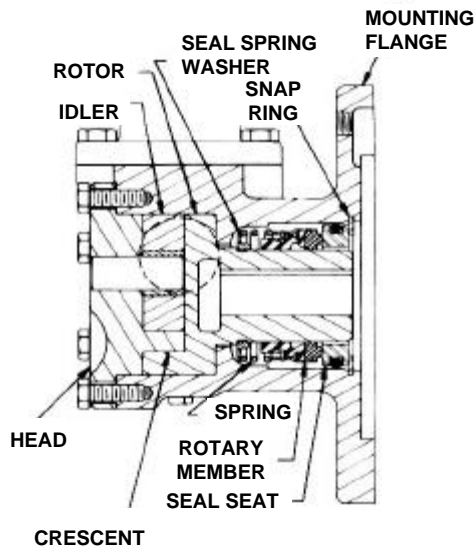

FIGURE 9
To Reassemble Model G475 or GG475 Mechanical Seal Pumps: (see figure 9)
Note correct position of idler and crescent (see figure 9 and Disassembly Step 2). Tighten the head capscrews and the check the end clearance.
- INSTALL THE MECHANICAL SEAL. Slide the seal spring washer over the rotor hub as far as it will go. Flush the rotor hub and seal housing bore with light oil (not grease) and assemble spring, rotary member and seat of the mechanical seal; in position, refer to figure 9.